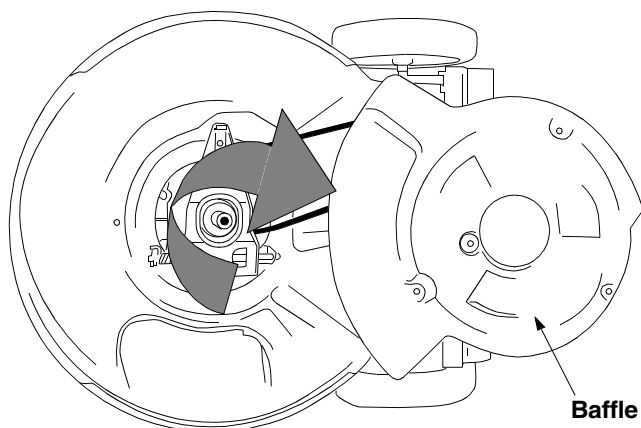

Figure 19
- Remove the three hex screws holding the baffle to the deck and pivot baffle towards the rear of the mower. See Figure 19.